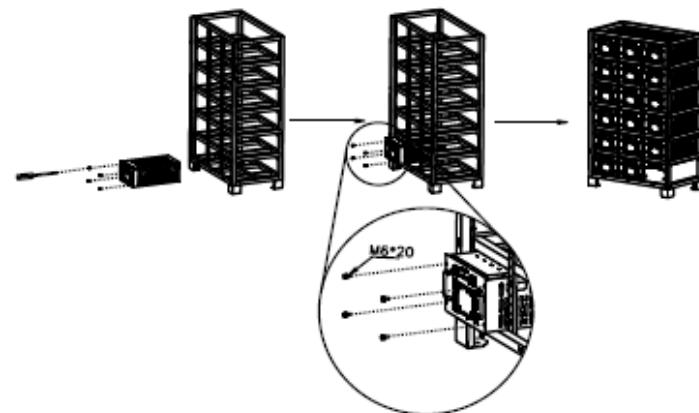

Figure 6-2 Installation diagram of the battery module(picture is for reference only)
- 3) Place the battery case in the corresponding position of the battery holder according to Figure 6-2, and fix the battery case to the battery holder with the matching M6 screw.